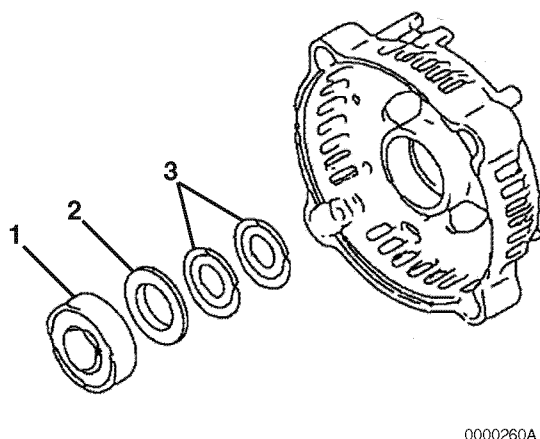

Figure 12-11
11. If it is necessary to replace the bearing **(Figure 12-11, (1))** in the rear frame housing, use a puller to remove. Discard the bearing. Remove the bearing cover **(Figure 12-11, (2))** and two thrust washers **(Figure 12-11, (3))**.